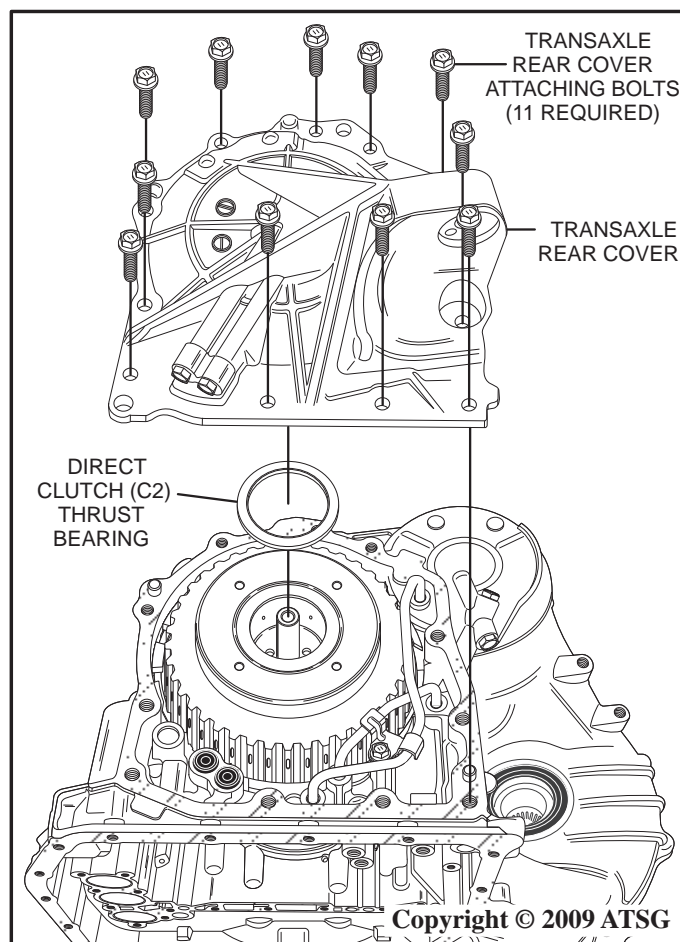
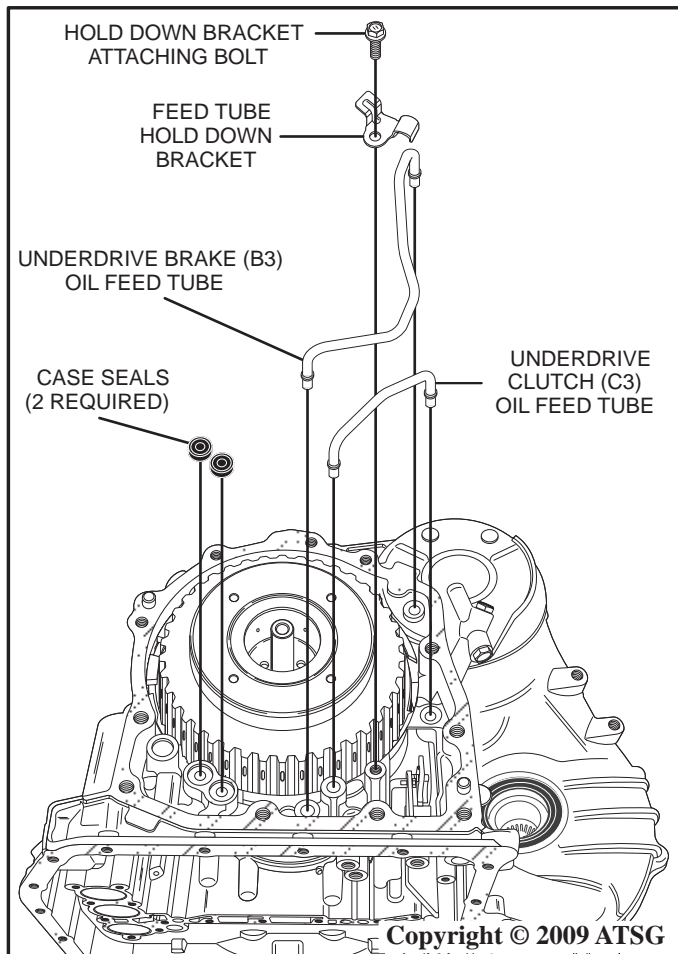

Figure 43
Figure 44
64. Turn transmission over so the transaxle rear cover is facing upward and remove the 11 12mm attaching bolts as shown in Figure 43.
65. Tap cover with a plastic hammer to loosen and remove the cover by lifting straight up as shown in Figure 43.
66. Remove the direct clutch (C2) thrust bearing as shown in Figure 43 on Page 27. Remove the 2 case seals as shown in Figure 44.
67. Remove the 10mm hold down bracket attaching bolt as shown in Figure 44.
68. Remove the feed tube hold down bracket as shown in Figure 44.
69. Using a screwdriver, gently loosen and remove the longer underdrive brake (B3) oil feed tube by lifting straight up as shown in Figure 44.
70. Using a screwdriver, gently loosen and remove the shorter underdrive clutch (C3) oil feed tube by lifting straight up as shown in Figure 44.